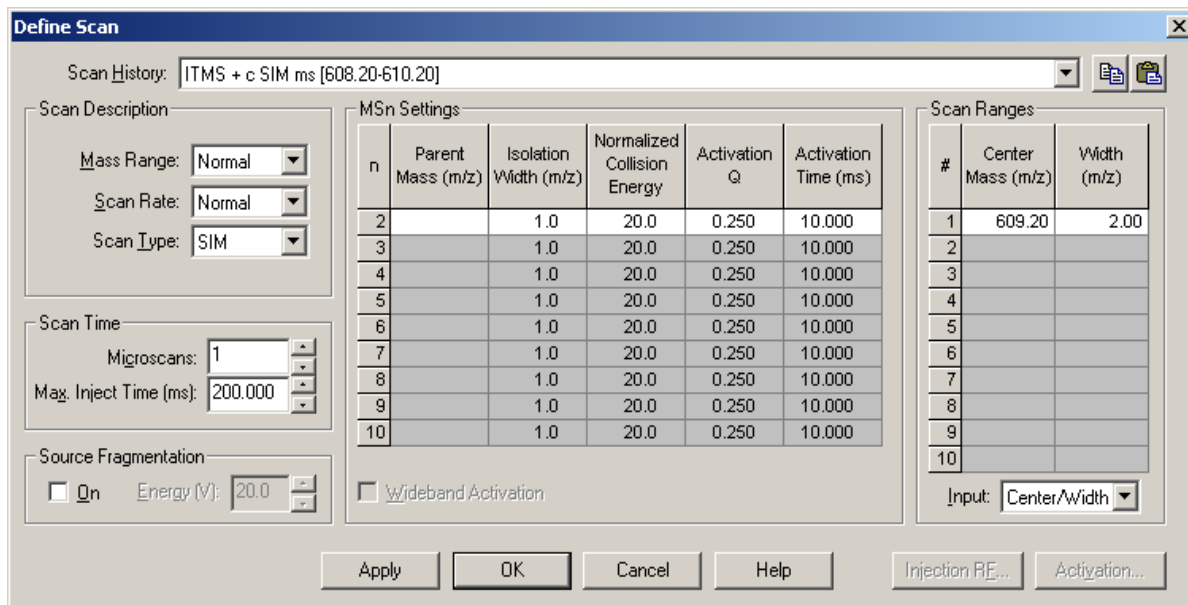

Figure 32. Define Scan dialog box, showing typical settings for acquiring reserpine data of the SIM type
- a. In the Instrument Control toolbar, click on the Define Scan button to open the Define Scan dialog box. See Figure 32.
- i. In the Scan Ranges group box (Scan Ranges table), in the Center Mass text box, enter the mass of your analyte to set the center of mass for the scan range. If reserpine is the analyte you would enter **609.20** to set the center mass for the scan range to *m/z* 609.20. If you are using another analyte enter its mass value into the Center Mass text box. See Figure 32.
- j. In the Width text box, enter **2.0** to set the width of the scan range to 2.0 daltons. See Figure 32.
- k. Ensure that the settings in your Define Scan dialog box are the same as those shown in Figure 32 if reserpine is the analyte being used. If you are using another analyte the Define Scan dialog box settings will be appropriate for the analyte.